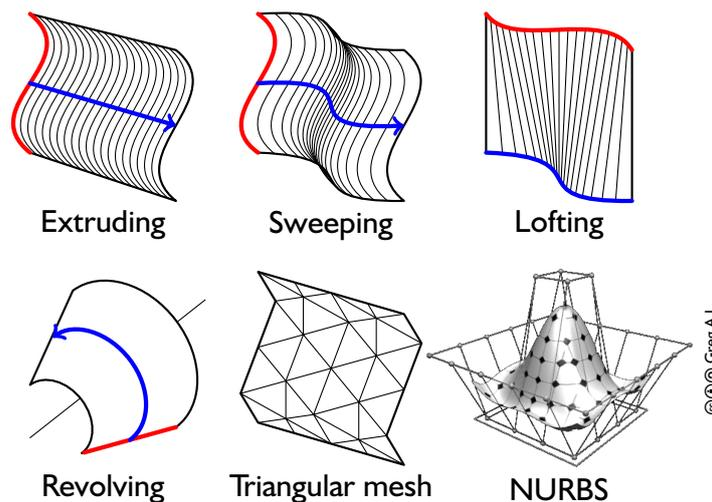

Figure 2: Surface modelling
- ¶ **Surface modelling** Various ways of doing this; the slide (Figure 2) shows some of the more common ones. You can completely represent the geometry but you